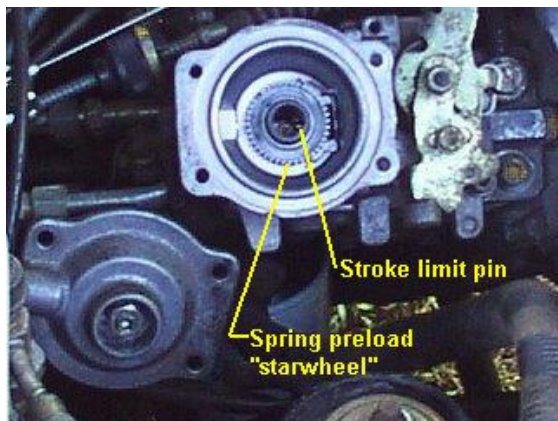
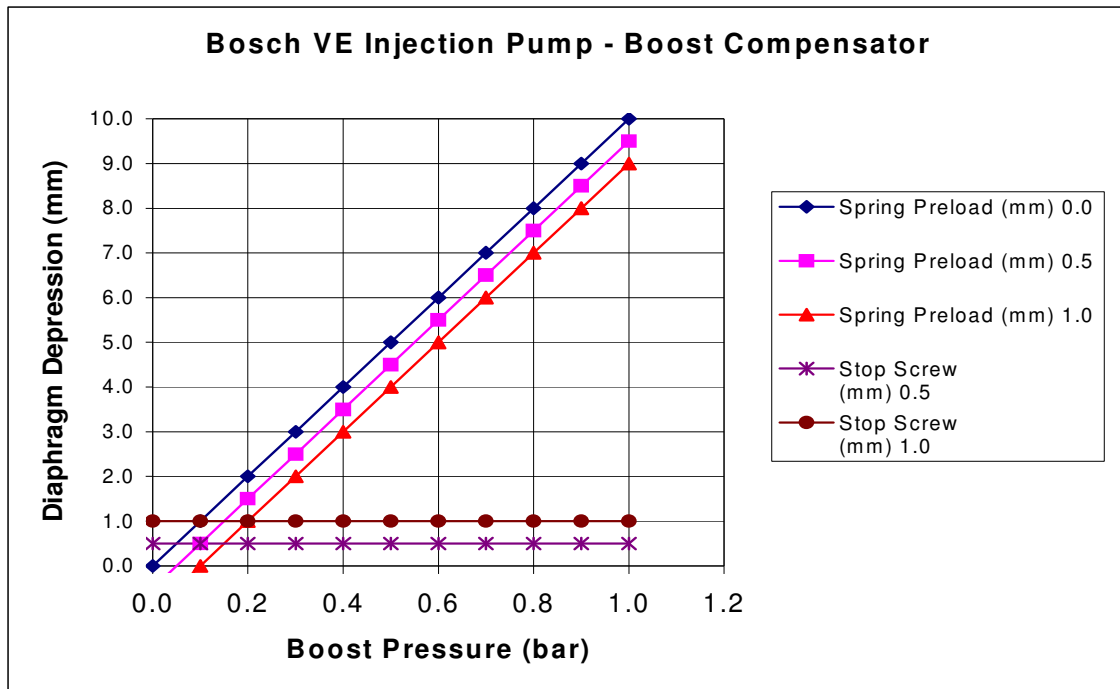

Figure 2
Figure 6
2. The diaphragm spring pre-load, adjusted by rotating the '**starwheel**' on the lower spring seat (See Fig. 2),
- 2.1. Figure 2 shows the 'starwheel' which adjusts the spring pre-load. My spring, marked "7 712", appears to be a linear coil spring. Therefore I have assumed a linear relationship between boost pressure on the diaphragm and diaphragm/control cone depression, shown in Figure 6.
2.4. Figure 6 shows the pre-load in millimetres. I have not measured the pitch of the 'starwheel' thread to relate turns with millimetres of vertical travel of the spring mount. Again however, the object is to show the effect of increasing/decreasing pre-load on fuel delivery. As shown in Figure 6, increasing pre-load means a higher boost pressure will be needed to depress the diaphragm to a certain point and hence to allow the stroke limit pin to move rearward to a particular point. Conversely for reducing pre-load.
3.1. Figure 7 shows the stop screw with Torx 27 head and locknut. The action of the stop screw is also shown in Figure 6. It sets a minimum diaphragm depression regardless of boost pressure (or the lack thereof). In conjunction with the other adjustments, it sets the fuel delivery limit when there is no boost, such as when first moving off from rest at low rpm.
Now, rotate the diaphragm in either direction until it 'pops' up and then withdraw the diaphragm/control cone from the well (see Figure 3). Take care that the spring does not fall out. You should now be able to see the 'starwheel' and perhaps the end of the stroke limit pin in the bottom of the well (see Figure 2). If the stroke limit pin is not visible, operate the throttle lever by hand and the pin should be pushed back into the well. Release the throttle lever and carefully push the stroke limit pin forward with a small screwdriver, to allow the control cone to be returned later.